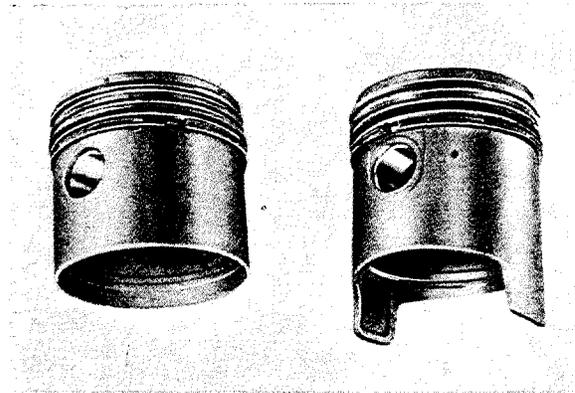

Fig. M 4d/00
**Note:** Fig. M 4d/00 shows the piston for Type 220 (left) and piston with extended skirt (right) for Type 220a and Convertible A of Type 220. Pistons with extended skirt can also be installed into engine of Type 220.